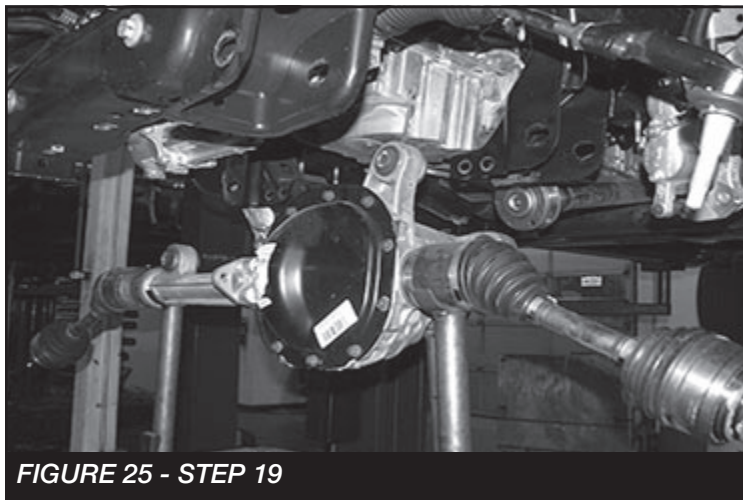

FIGURE 25 - STEP 19
19. Supporting the differential, remove the 3 differential mount bolts and save for re-installation. Remove the differential from the vehicle. **SEE FIGURE 25**